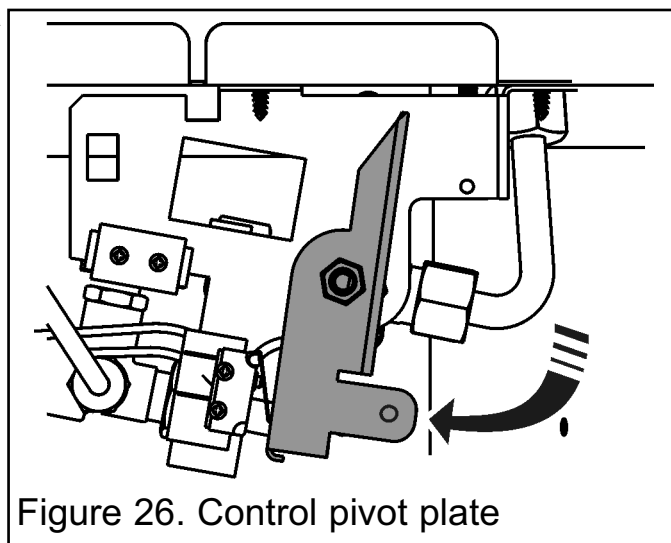

Figure 26. Control pivot plate
2. Rotate the control pivot bracket clockwise as far as it will go and hold in this position (See figure 26). This should close the ignition circuit and simultaneously open the gas tap allowing the gas to flow to the pilot. Wait a few seconds while the air is purged. The electronically generated sparks should light the pilot. The pilot should then light the main burner at its low setting. There may be a delay of up to four seconds between the pilot lighting and ignition of the gas at the main burner. This is normal and is due to the time required to fill the main burner compartment with sufficient gas for ignition.